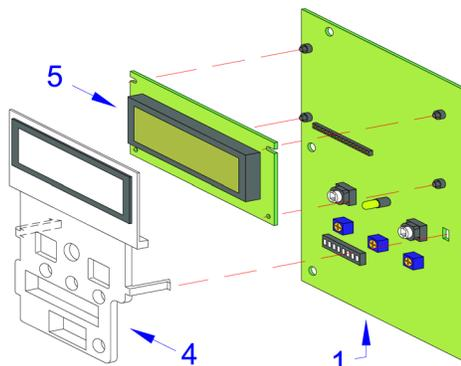

Figure 7-10b, Panel & LCD Board Replacement
5. Detach clear cover (4, Figure 7-10b) from defective panel board (1) followed by LCD board (5).
6. Attach original or replacement LCD board (5) to original or replacement panel board (1) as necessary.